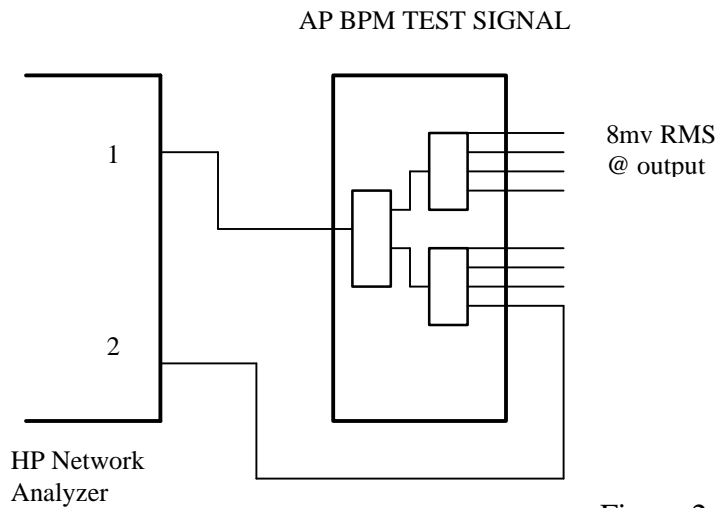

Figure 2
- 2.) Perform calibration (thru) as shown in Figure 2. Obtain 8mvRMS at output of AP BPM TEST SIGNAL using power adjustment of source and attenuation pads at output.